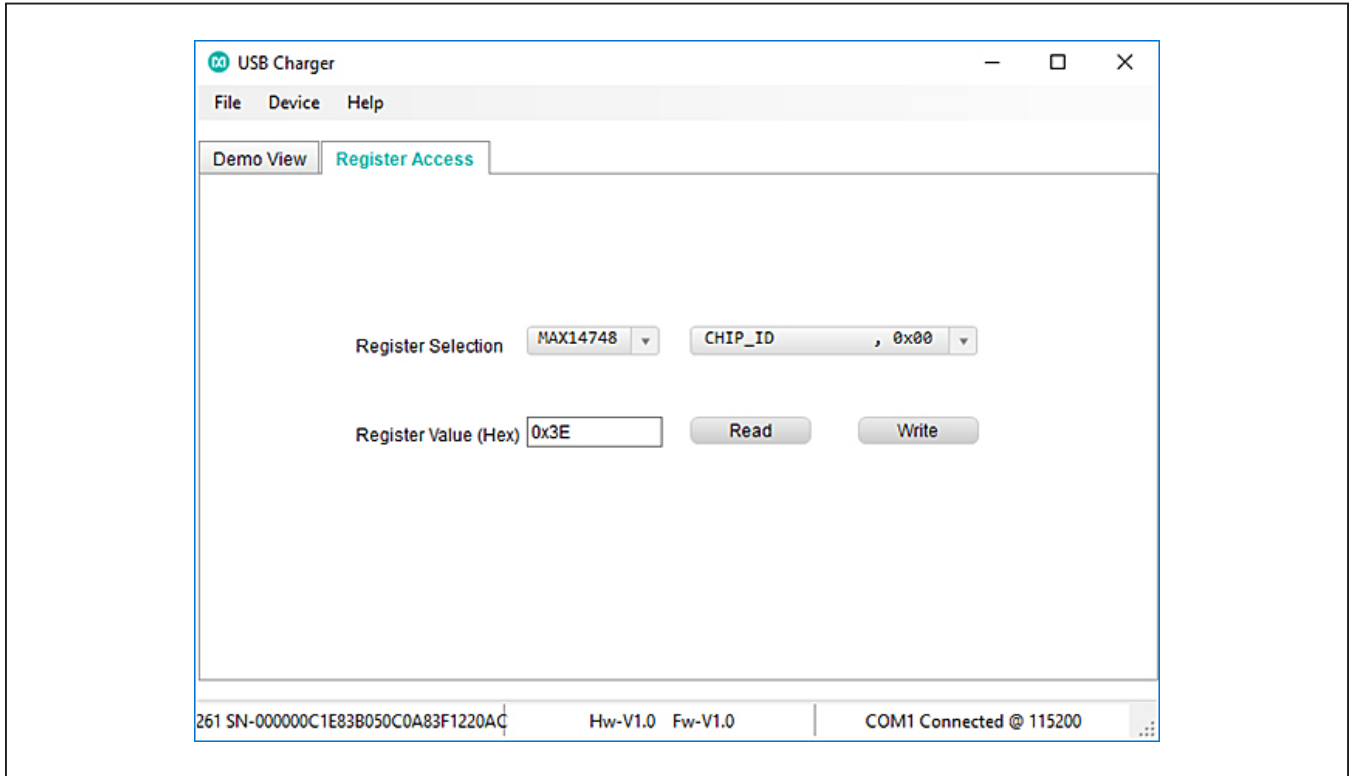

Figure 7. Register Access window.
- 6) Read/write all the registers of the two chips on **Register Access** (Figure 7) and configure various functions independently according to different needs.